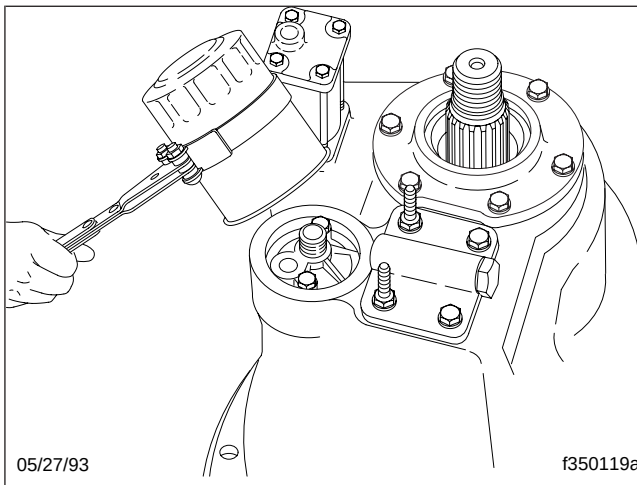

Fig. 5, Axle Oil Filter Removal
3. If so equipped, replace the axle oil filter. Remove the oil filter, using a suitable filter strap wrench. See Fig. 5. Discard the filter.